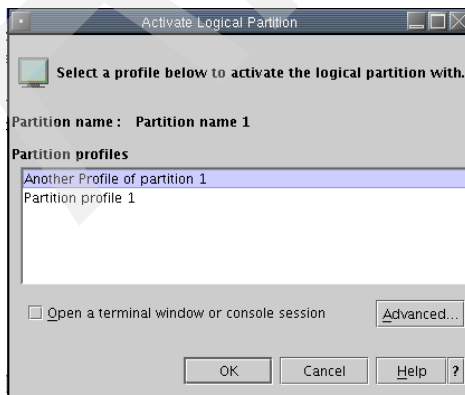

Figure 6-19 Selecting the profile to activate
2. From the LPAR functions menu, select **Activate**. A dialog like the one in Figure 6-19 is shown.
4. After the desired profile is selected, press **OK** to start the activation process. See Figure 6-19.